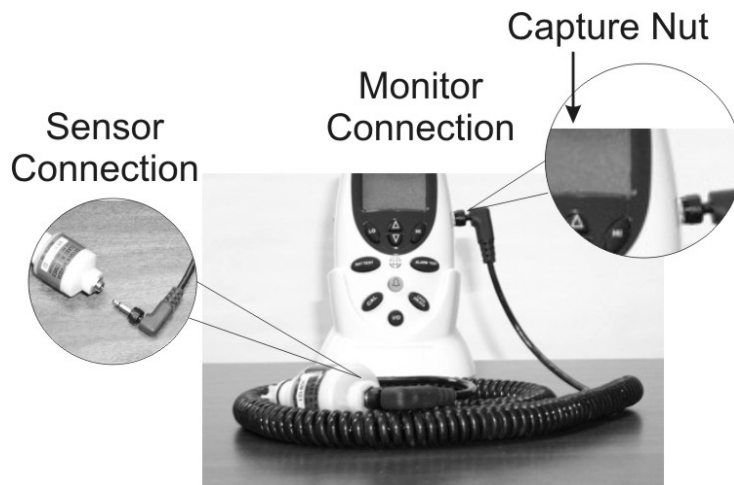

Figure 2-2: Sensor Cable Connection to Monitor
3. Plug the other end of the coiled cable into the receptacle located on the right side of the unit and secure it in place using the capture nut. See Figure 2-2.